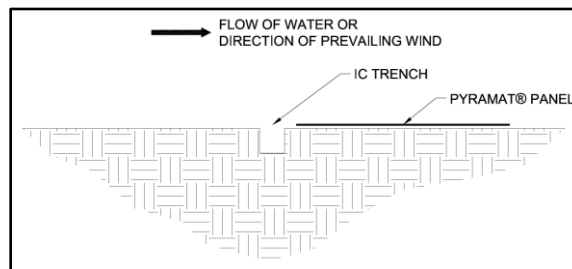
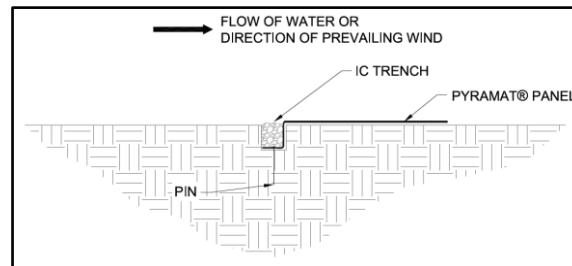
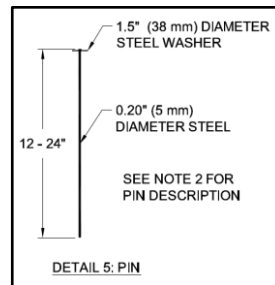

Figure 4: Initial Channel (IC) Trench Alignment
Figure 5: Initial Channel (IC) Trench Placement
Figure 6: Securing Pin
- Lay the PYRAMAT panel on the downstream side of the IC trench (Figure 4). Place the panel edge in the IC trench, ensuring full coverage along the bottom of the entire IC trench with the PYRAMAT (Figure 5).
- Secure PYRAMAT with pins in the IC trench (Figure 5). Pins should be made of steel with a 0.20 in (5 mm) minimum diameter, having a 1.5 in (38mm) diameter washer at the head, and a length between 12 and 24 in (300-600 mm) with sufficient ground penetration to resist pullout (Figure 6). Longer pins may be required for looser soils. Heavier metal stakes may be required in rocky soils. Suggested placement of pins for the IC trench is along the bottom of the trench with pins on 12 in (300 mm).
4. Backfill and compact the IC trench (Figure 5).